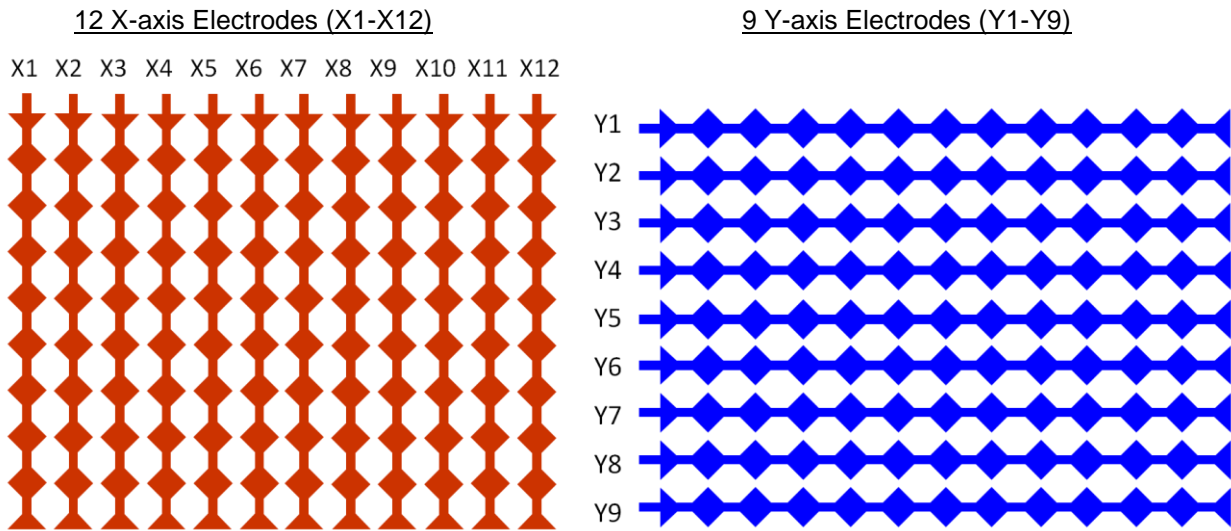

Figure 4 : X & Y Axis Electrode Examples
- Figure 4 : X & Y Axis Electrode Examples.....6*